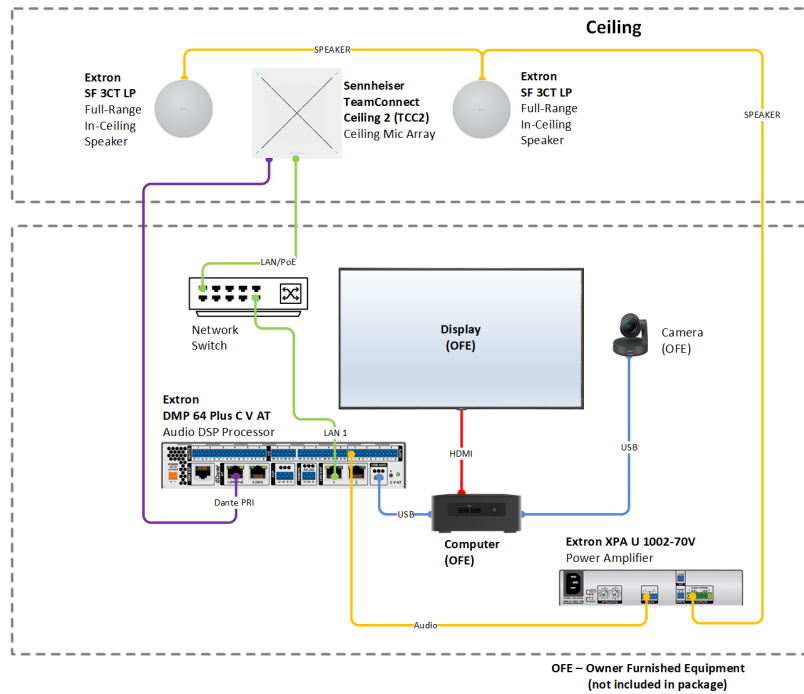

Figure 2. System Diagram Example
1. Unbox and connect the provided hardware using the above diagram (see figure 2 on page 3).